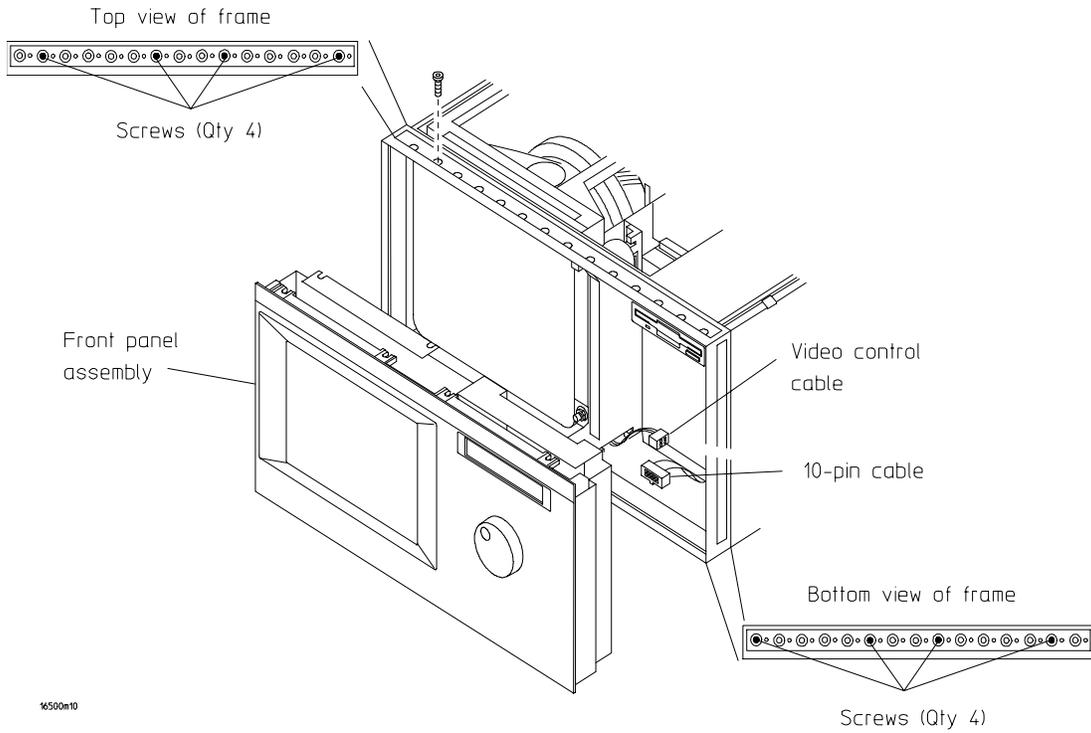

Figure 9. Installing Front Panel Assembly
(See Figure 9 for Step 14: Installing Front Panel Assembly)
14. Connect cables to new front panel assembly. Install new front panel assembly onto the front of the mainframe and insert screws (8) in the holes indicated in Figure 9. Using a T15 Torx screwdriver, tighten screws (8) to 5 in-lbs. Do not overtorque. You may need to press down the back of the flexible disk drive to allow it to fit in the slot on the front panel assembly. Ensure front panel is recessed in metal frame before tightening screws.